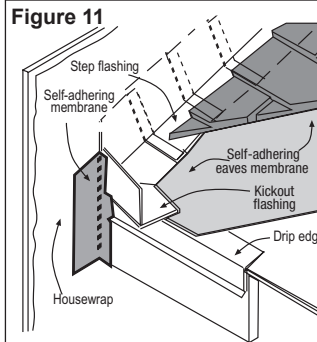

Figure 11
**Figure 11, Kickout Flashing\*** To prevent water from dumping behind the siding and the end of the roof intersection, install a "kickout" of sufficient length and angle to direct the water running down the roof away from the siding.
\* The illustration (figure 11) was reprinted with permission of THE JOURNAL OF LIGHT CONSTRUCTION. For subscription information, visit [www.jlconline.com](http://www.jlconline.com).